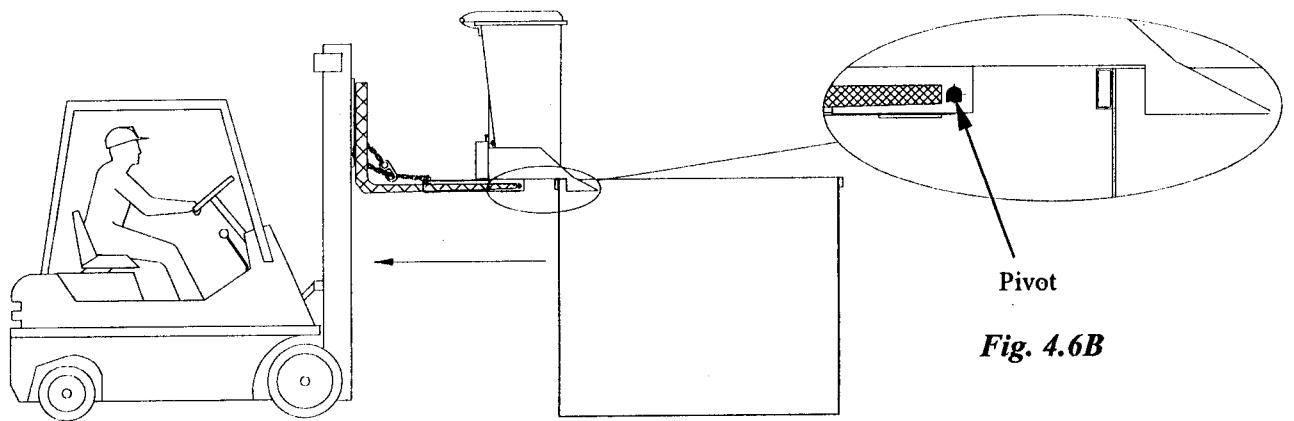

Fig. 4.6A
- j) Allowing the Wheelie Bin Tipper to rest slightly on the container as shown in *Fig. 4.6A*. Reverse the forklift to withdraw the forks past the pivot point as shown in *Fig. 4.6B*, until the safety chain stops the Wheelie Bin Tipper from moving further off the forks. In this position, the lip of the container is stopping the Wheelie Bin Tipper from rotating.